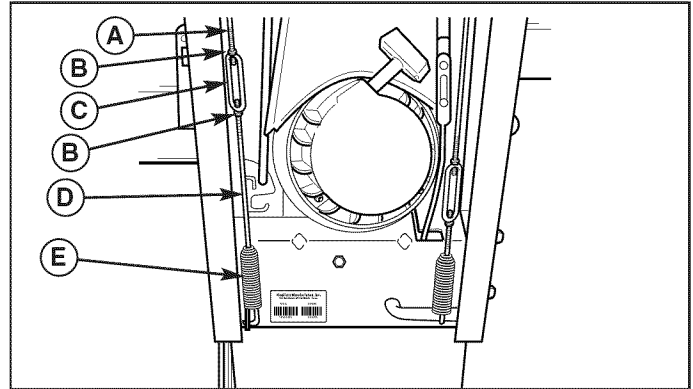

Figure 20. Drive Tension Adjustment
1. With the drive lever engaged, bottom end of lower rod (D, Figure 20) should be flush with bottom of spring (E).
2. To adjust, loosen the two nuts, (B) and hold the lower rod to keep from rotating. Turn the turnbuckle (C) toward the right to lower rod or toward the left to raise rod.
3. Engage the drive lever to check the adjustment. When correct, tighten the two nuts (B) against the turnbuckle (C). Hold the turnbuckle (C) with pliers while tightening the nuts (B).